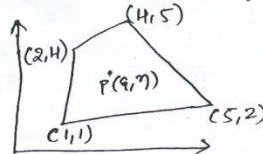

Fig. Q4(b)
- Establish the Jacobian matrix for linear quadrilateral elements as shown in figure Q4(b) at point $P(\xi, \eta) = (0.57735, -0.57735)$ in local co-ordinate system. (10 Marks)